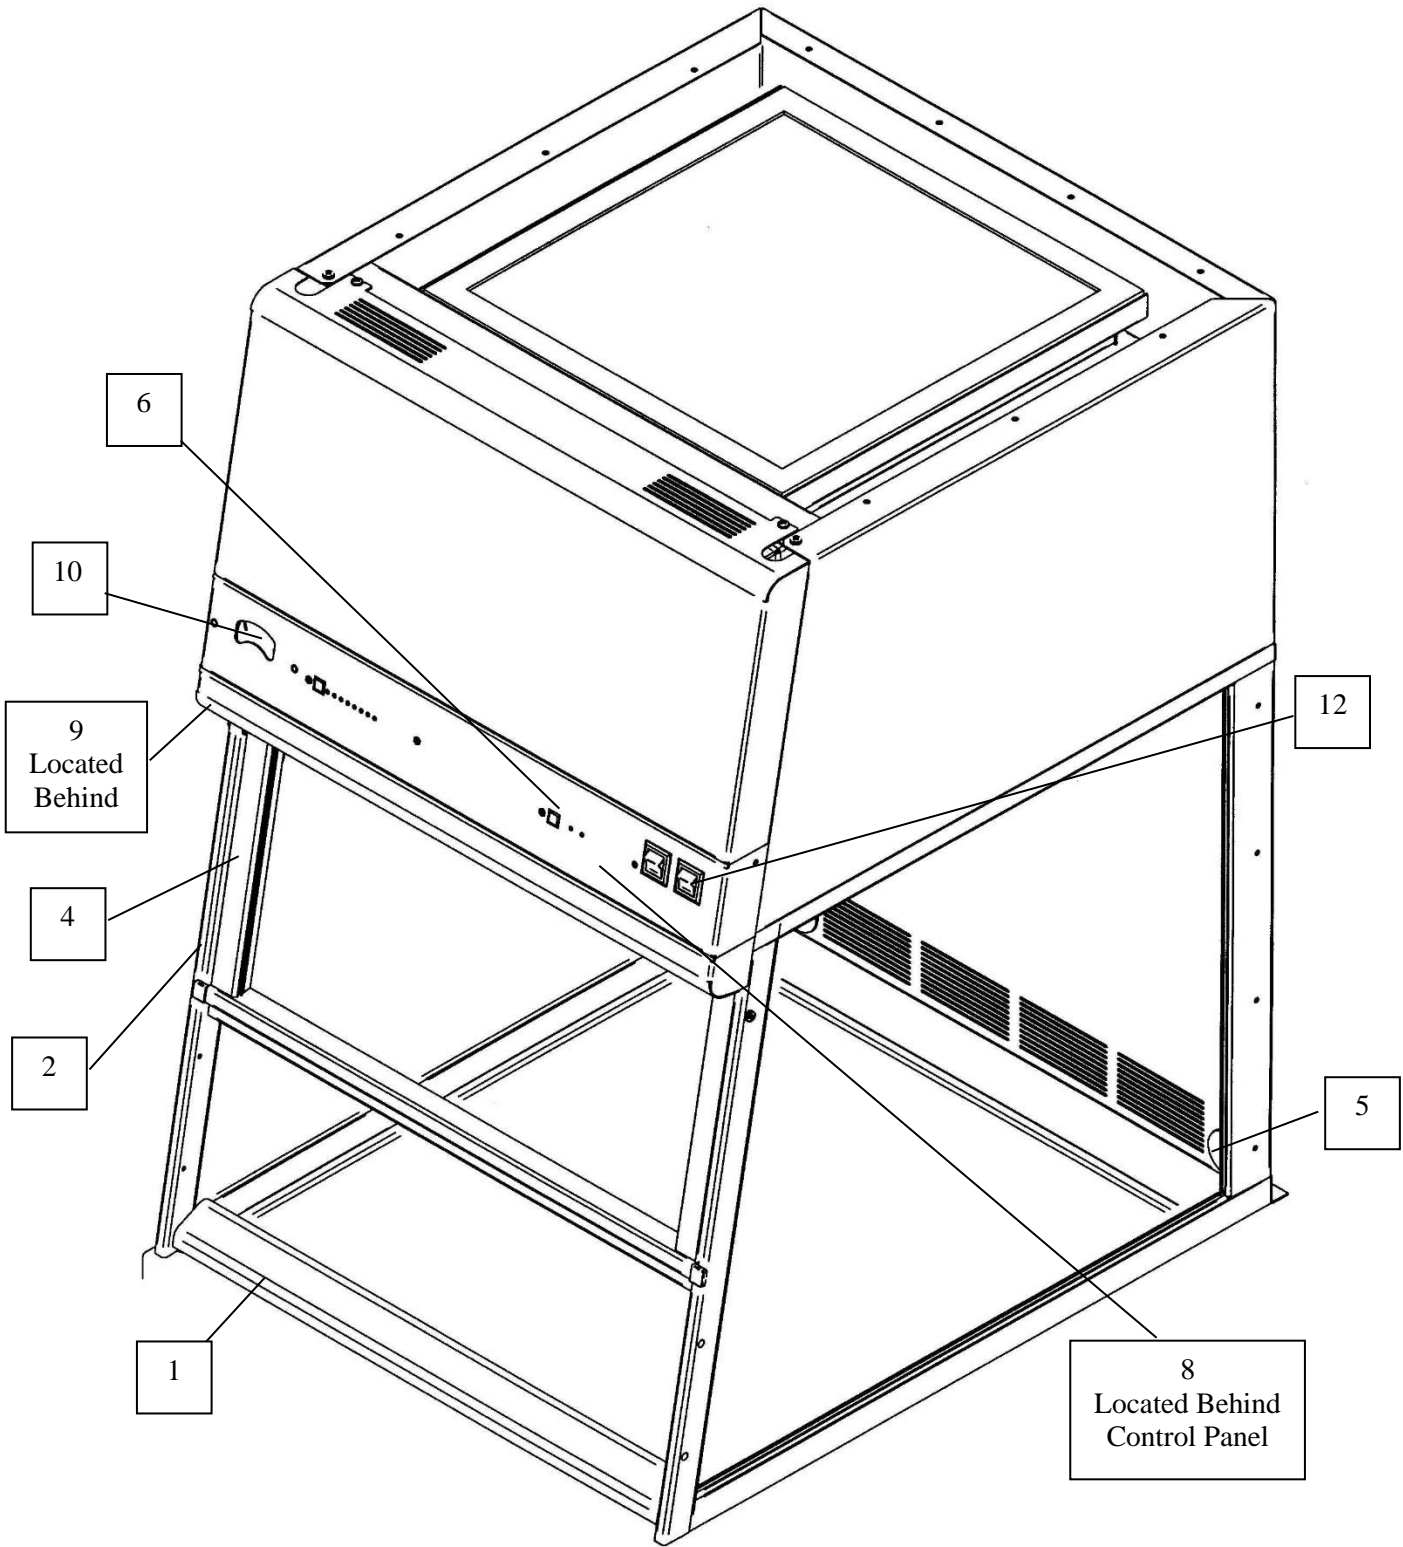

Figure 4-1
1. **Aerodynamic Lower Air Foil** allows air to sweep the work surface and promote ISO Class 5 air conditions inside the enclosure. See Figure 4-1.
2. **Ergonomic Slope** of 10 degrees provides maximum visibility and comfort, reduces glare, thereby minimizing operator fatigue. See Figure 4-1.
3. **Internal Depth of 25"** provides necessary depth to work inside the enclosure. See Figure 4-1.
4. **Safety Glass Sash with Spring-Loaded Latch** has a wiping seal and features a spring-loaded latch to secure sash open for loading and cleaning. The sash must be down for normal operation. See Figure 4-1.
5. **Utility Ports with Iris** allows electrical cords and data cords to pass through the back of enclosure without leaving a large hole. The enclosure ships with solid plugs. Iris plugs are included with the User's Manual. See Figure 4-1 and 4-2.
6. **Optional Guardian™ Airflow Monitor** continuously monitors airflow. An audio/visual alarm alerts the user to low airflow conditions. The Guardian™ Airflow Monitor is an available option on all Vertical Clean Bench models. See Figure 4-1 and 4-2.
9. **Fluorescent Lamp** is located above the work area, out of contact with the clean air. A safety glass window beneath the lamp distributes the light evenly across the work surface. See Figure 4-1.
10. **Filter Pressure Gauge** indicates the pressure across the HEPA filter to help predict HEPA filter loading. See Figure 4-1.
11. **Filter Clamping Bolt** evenly seals the HEPA filter to the frame of the enclosure. See Figure 4-1 and 4-2.
12. **Control Panel.** The control panel, which is located above the sash, contains the filter pressure gauge, control switches and electronics. See Figure 4-1.